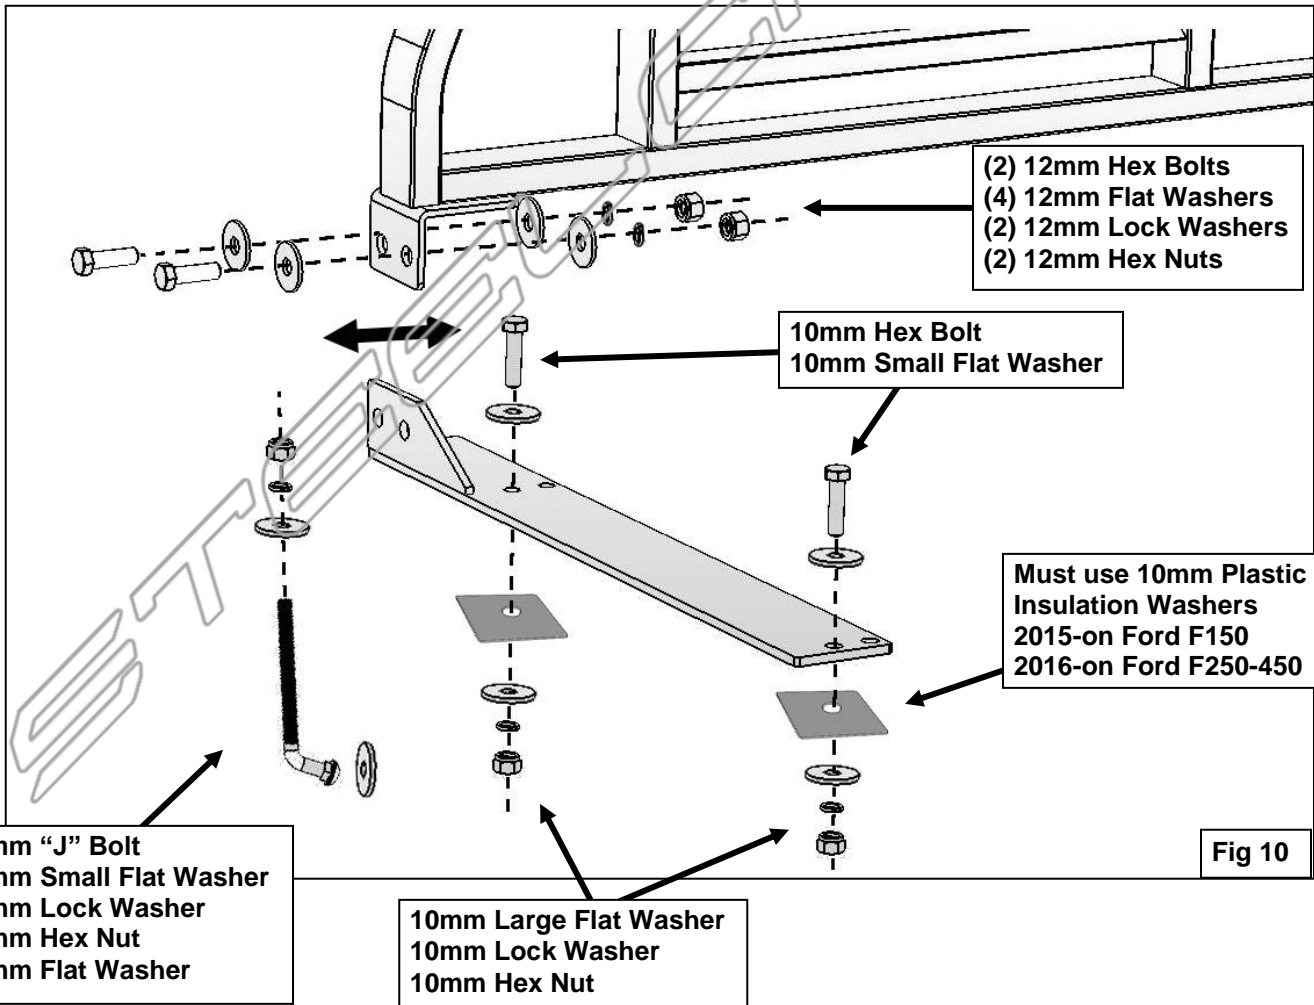

Fig 10
IMPORTANT SPECIAL NOTE for 2015-on Ford F150, 2016-on Ford F250-450 only: (4) 10mm Plastic Washers have been included to insulate the aluminum bed from the steel 10mm Flat Washers. Insert the Plastic Washers between the underside of the bed and the 10mm Flat Washer, **(Figure 10)**.